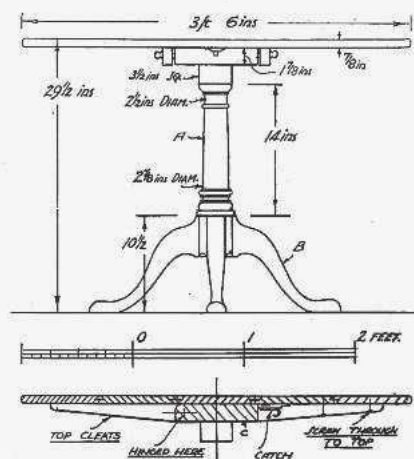

FIG. 4. Elevation and sectional view.
Make a full size drawing of the column from the scale in Fig. 4, showing the turner just what portion is to be round and how much to leave square at the top. Do not overlook the tenons into the block (C). Another point to remember is that the turner will want a little left on at each end for his chucks, so do not cross-cut the wood.